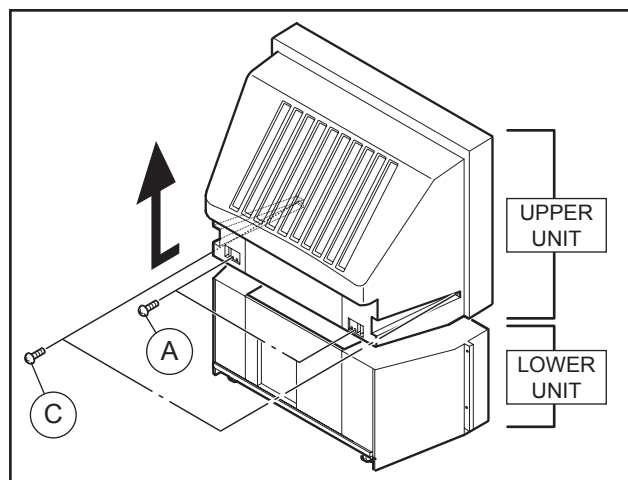

Fig.3
- (7) Remove 1 screw C on the left edge of the rear cover, and 1 screw C on the right edge of the rear cover. [Fig.3]
- (8) Remove 1 screw [ **A** ] on the left side of the rear cover, and remove 1 screw [ **A** ] on the right side of the rear cover. [Fig.3]
- (9) Move the rear cover approx. 3cm in rear direction. Then, remove the upper unit from the lower unit by lifting the upper unit slowly. [Fig.3]